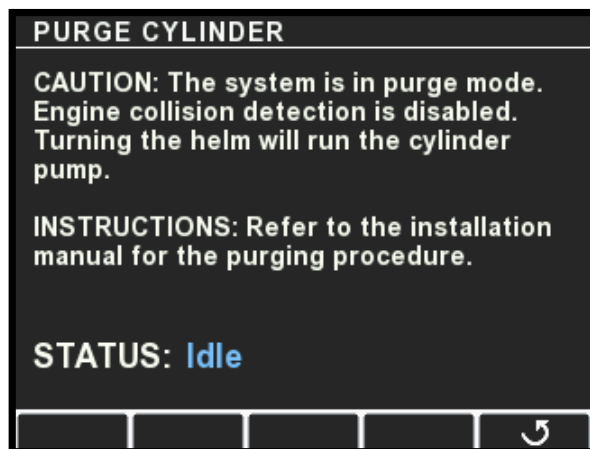

Figure 7-5.
8. Select the cylinder to purge and press > to enter Purge Mode. If you don't see the Purge Cylinder screen as shown in figure 7-5, cycle the system power and try again. The system will not enter Purge Mode if the helm has been turned since the ignition was turned on.